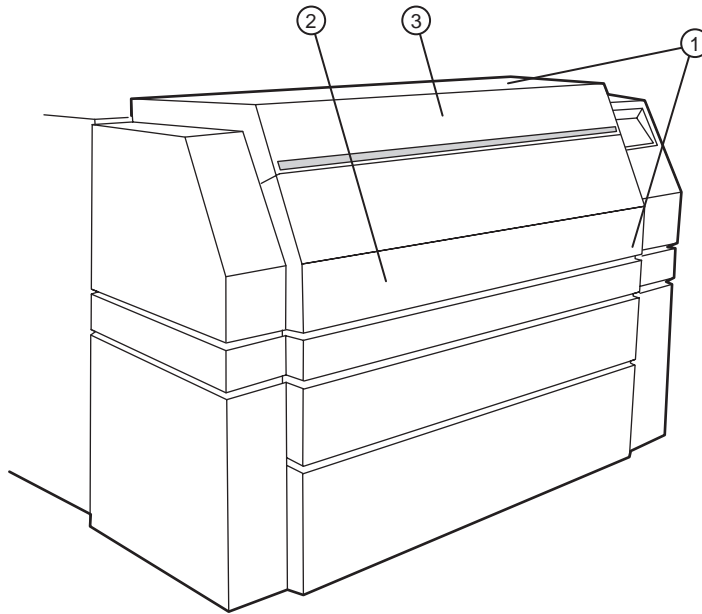

Figure 4-3 Front of imagesetter.
1. Lift the bottom segment of the top cover. Refer to Figure 4-3.